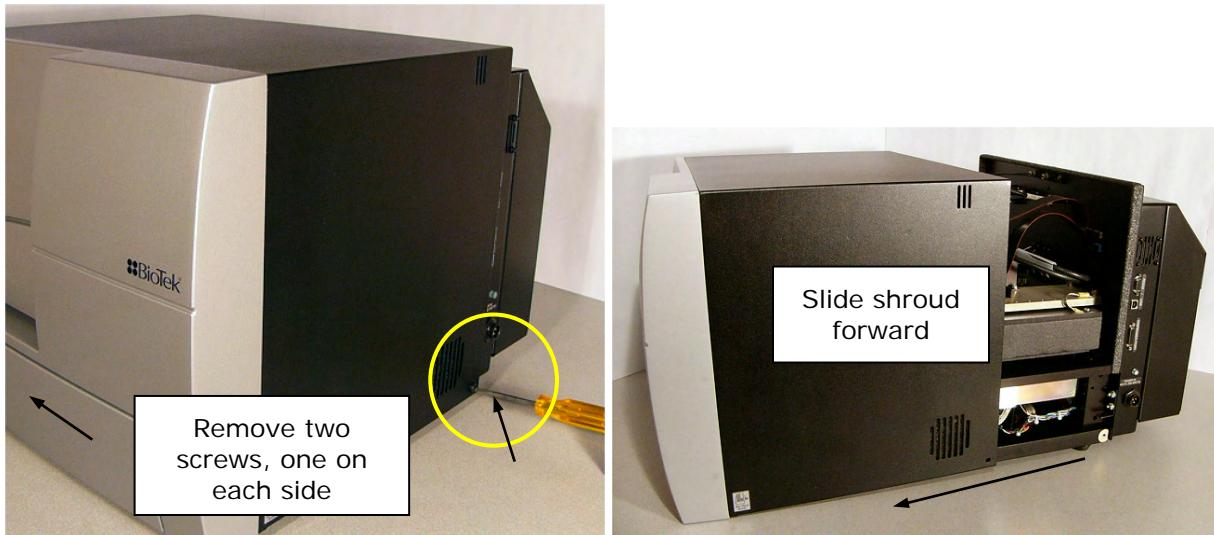

Figure 1: Removing the reader's shroud (cover)
7. Slide the shroud onto the reader and replace the two side screws (**Figure 1**).